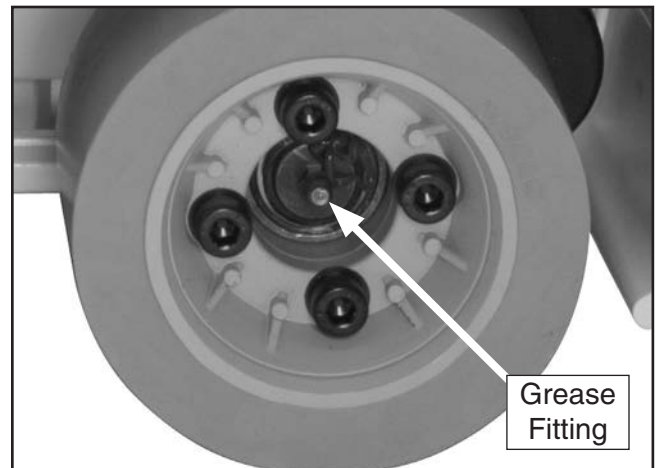

Figure 18. Wheel lubrication.
- Every 40 hours of use, or once every two weeks, wipe clean and lubricate the wheel grease fittings (see **Figure 18**) with one pump from a grease gun filled with automotive-grade NLGI #2 grease.